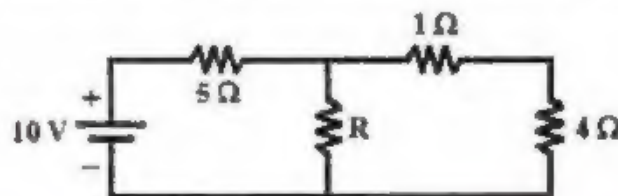

Figure 1 (See Unit-1, Page 14, Prob.3)
2. (a) What is the value of unknown resistor R if the voltage drop across the 4Ω resistor is 2V for the circuit shown in figure 1.